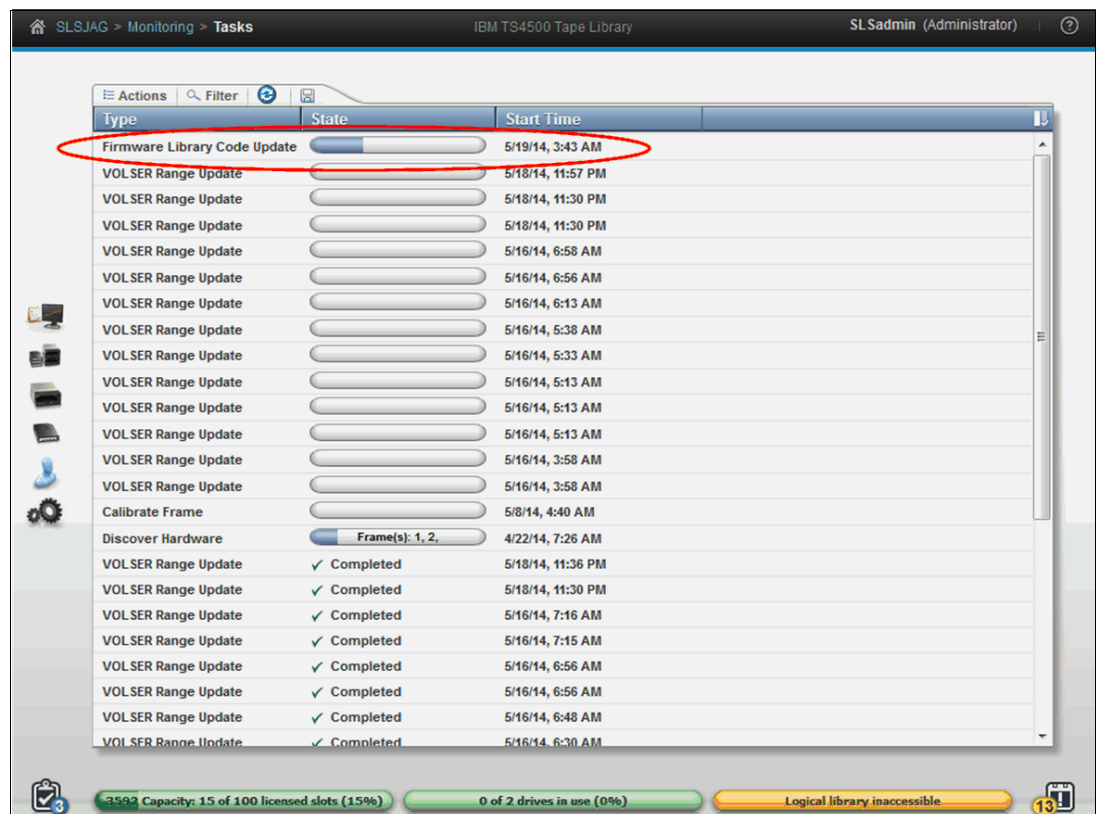

Figure 4-169 Firmware update status
4. The firmware is downloaded to the TS4500 Tape Library first, and this download can take a few minutes. Then, the update starts and the Tasks pod, which is at the lower left of the System page, indicates that the firmware update task is in progress. Monitor the status of the update from the Tasks page by selecting **Monitoring** → **Tasks**, as shown in Figure 4-169.